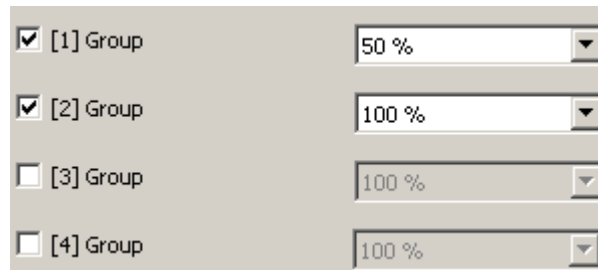

Figure 55: Example of a group assignment to an effect step
Groups and single devices can be assigned to an effect step without restrictions. In addition, it is possible to assign created scenes. Each group, each single device and each scene can be assigned independently by activating the checkbox in front of the group or single device name or the scene name in the configuration of the effect steps (Figure 55). Groups, single devices and scenes, whose checkboxes are not activated, are not assigned to the effect step. Any non-created groups, single devices or scenes of the DALI Gateway are greyed out and thus cannot be edited.
- In the parameter node "Effects -> [x] Effect name -> [y] Step" (x = 1...16 / y = 1...15), specify the necessary brightness value for each assigned DALI group, each assigned single device and each assigned scene (Figure 55).